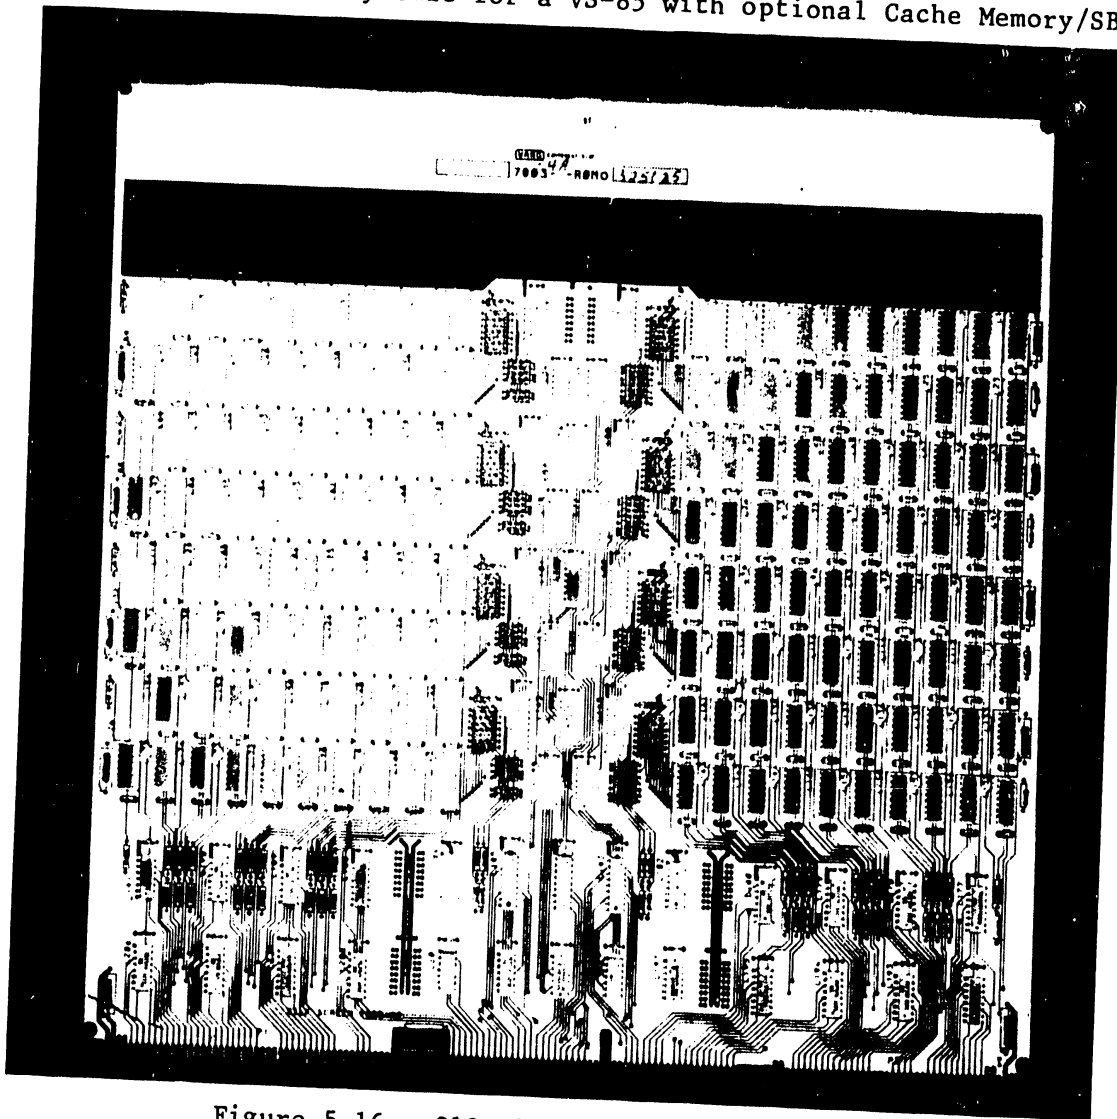

Figure 5-16. 210-7803 Main Memory Board
1. Remove the Main Memory boards (figures 5-16 and 5-17) from Mother-board slot(s) # 6 and/or 7 as described in step 5.3.5.3.1.